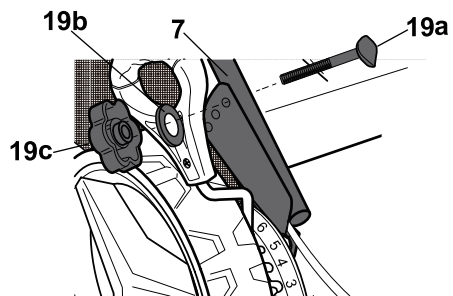

Fig. 3
5. Fix the lower handle bar (7) with the mounting sets (19) to the handle support (20) (Fig. 3).